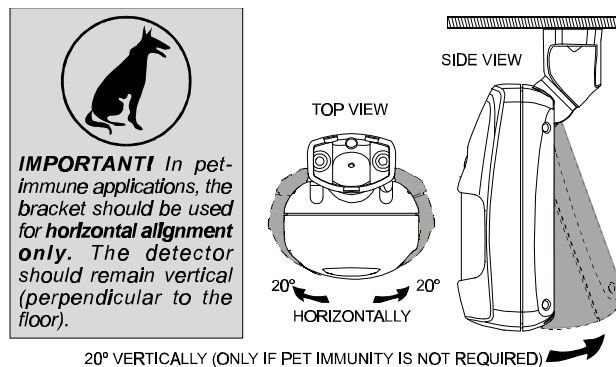

Figure 7. Tilt/Swivel Limits
H. Swivel the detector horizontally to face the desired direction, but do not tilt it if this is a pet immune application. However, if pets are not present it is advisable to tilt the detector as much as 20° down. Figure 7 shows the tilt/swivel possibilities.